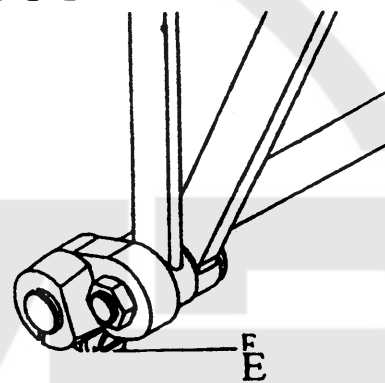

Fig.14
16.RELATIVE POSITION OF THE FEED DOG TO NEEDLE PLATE(Fig. 14):